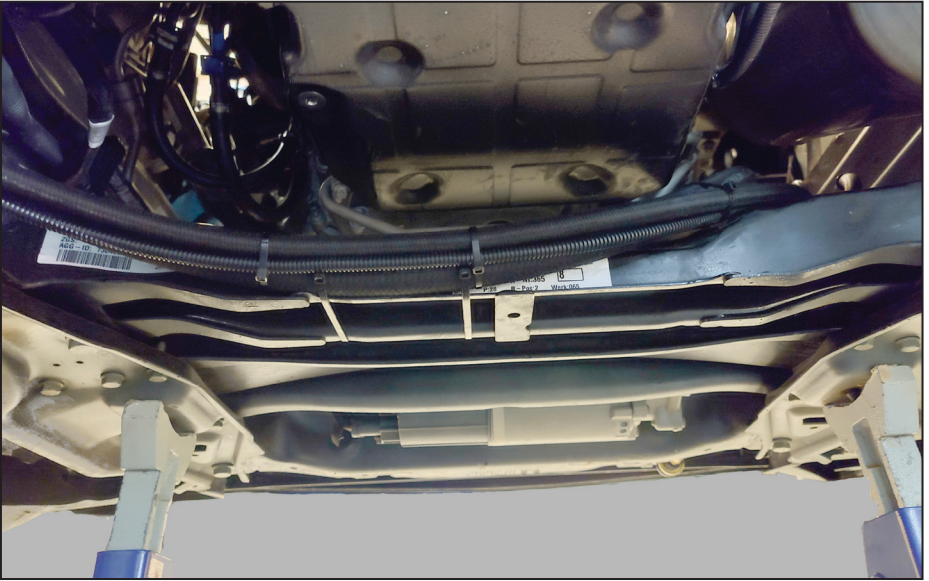

Figure 36 — Route hoses
- Route the hoses and PTFE tube along the rear edge of crossmember, behind suspension, and over to the driver side of the vehicle (Figure 36).